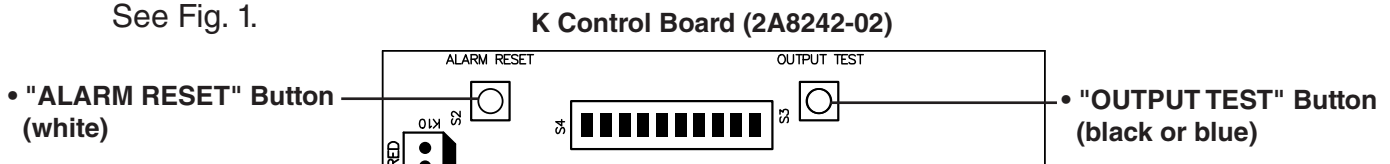

Fig. 1
- 3a) **K Control Board (2A8242-02)** - The "OUTPUT TEST" button provides a relay sequence test. Make sure the control switch is in the "ON" position and the mode switch is in the "ICE" position, then press the "OUTPUT TEST" button. For the correct lighting sequence, see the table below. Note that the order of the LEDs from the outer edge of the control board is 1, 4, 5, 3, 2. Components (e.g., compressor) cycle during the test. See Fig. 1.
See Fig. 1/2. Pressing the "OUTPUT TEST" button while CB is in alarm initiates an output test and locks out the "ALARM RESET" button until power is turned off and back on.